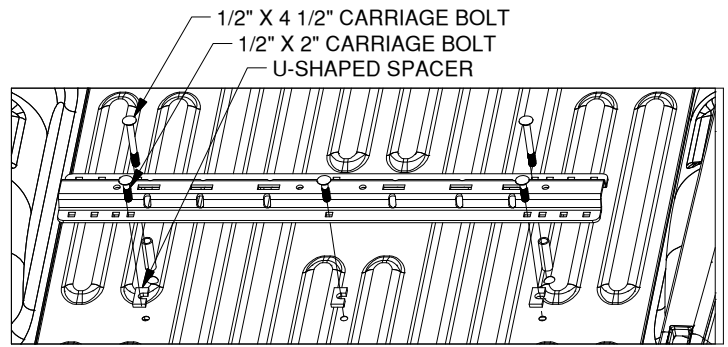

Figure B1: View looking into truck bed from rear of truck.
- 1. Place the rear mounting rail.** Locate the two tube spacers, place a tube spacer into each of the 7/8" drilled holes. Re-position the rear mounting rail over the drilled 9/16" and 7/8" holes in the bed. Install two 1/2" X 4 1/2" carriage bolts into the two forward drilled positions (7/8" holes over the cross member) and install three 1/2" X 2" carriage bolts through the three rear drilled positions, as shown in Figure B1. Place a U-shaped washer between the bed and the mounting rail at the three rear drilled positions.